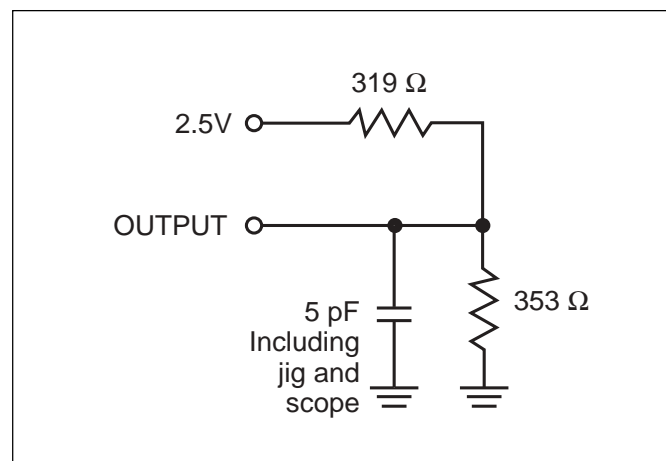

Figure 1b.
2. Tested with the load in Figure 1b. Transition is measured ± 500 mV from steady-state voltage. Not 100% tested.